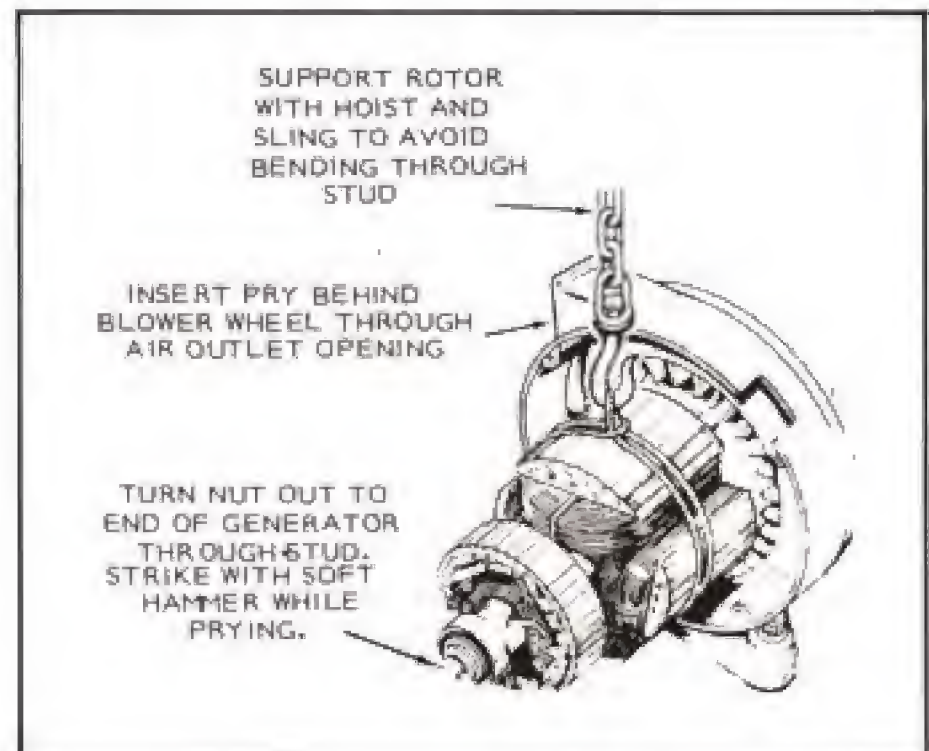

FIGURE 4-36. ROTOR REMOVAL (ENGINE MOUNTED GENERATOR)
6. Remove baffle ring from adapter. Turn rotor-through-stud nut to end of stud. While pulling rotor outward with one hand, strike nut a sharp blow. Support rotor with hoist and sling to avoid bending rotor-through-stud, Figure 4-36. Use a heavy, soft faced hammer to loosen the rotor from its tapered shaft fit. If rotor does not come loose, strike it a sharp downward blow in center of lamination stack. Rotate rotor and repeat until it comes loose. Be careful not to hit bearing or windings.